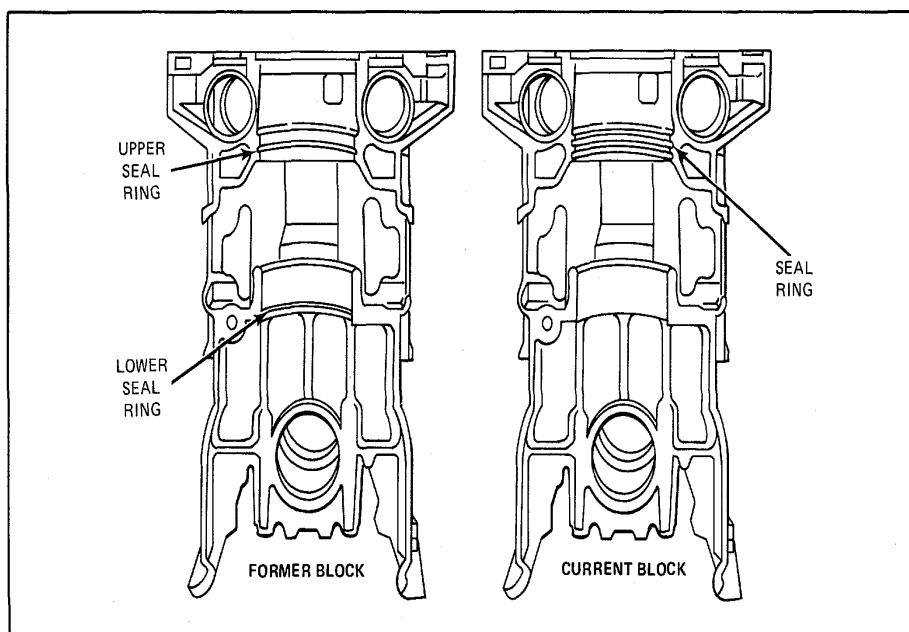

Figure 10. Installing Piston, Rod, and Liner Assembly in Cylinder Block
6. Position the piston, rod, and liner assembly in line with the block bore (Fig. 10) so that the identification number on the rod is facing the engine serial number side (in-line engine). Also align the matchmarks on the liner and the block. Then slide the entire assembly into the block bore and seal ring, being careful not to damage the seal ring.